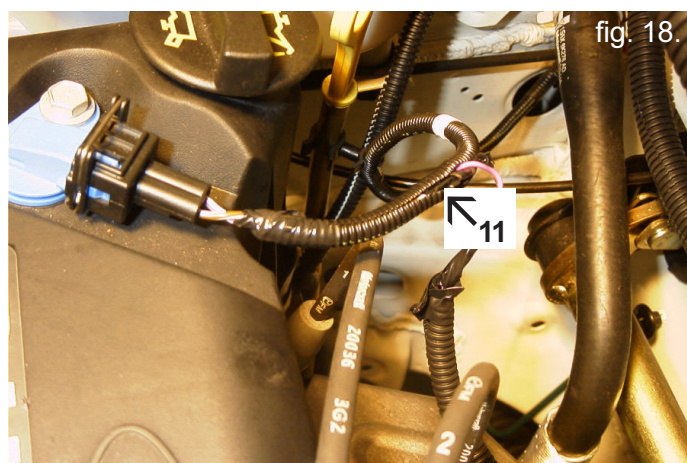

fig. 18.
11. Camshaft signal. Connect the signal wires to the camshaft sensor connector located on the end of the valve cover. See fig 18. The purple wire is connected to pos. 1 – purple/white and the brown/purple wire to pos. 2 – brown/white